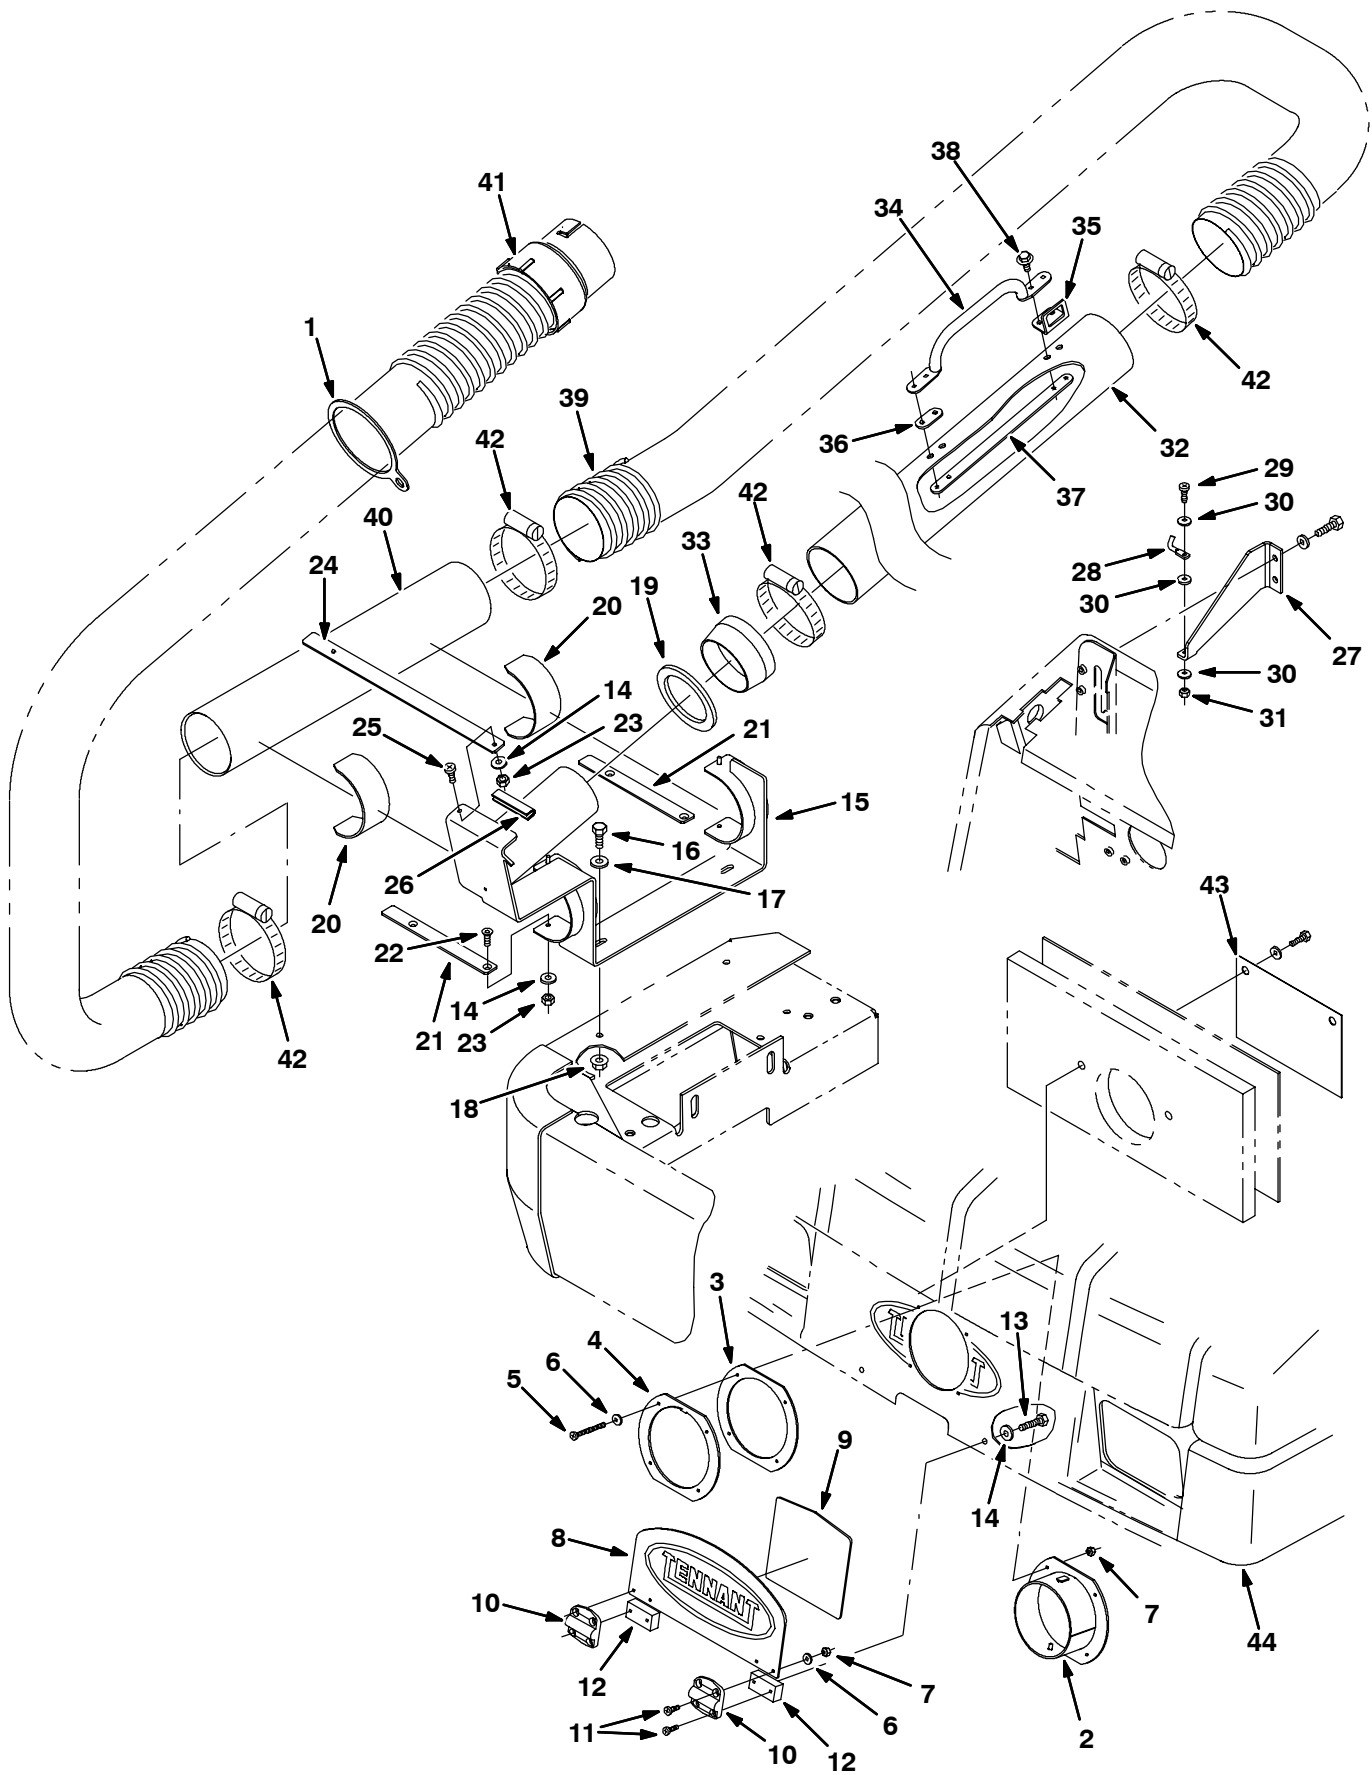

FIG. 2 - Vacuum Wand Kit Installation
8. Install the new **hopper cover (44)** by reversing the previous steps. (Refer to FIG. 2)
(Refer to FIG. 2)